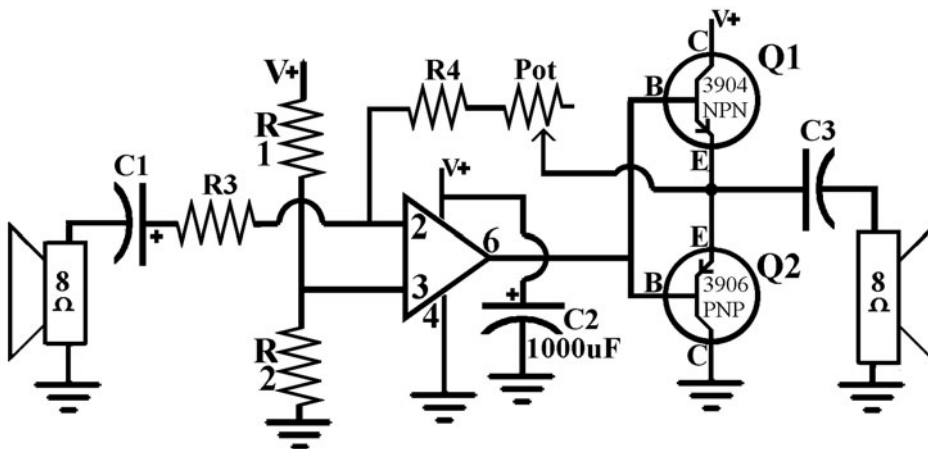

Figure L59-3
- a. Now set this second speaker into your SBB as shown in Figure L59-3.